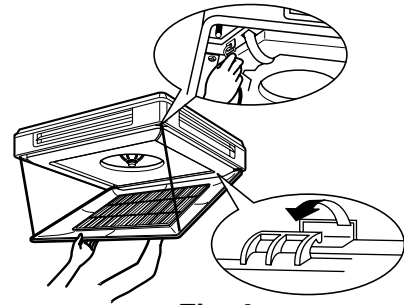

Fig. 4
- 2 With the suction grille in the open position, remove the suction grille by pushing it up as shown. (Refer to Fig. 4)